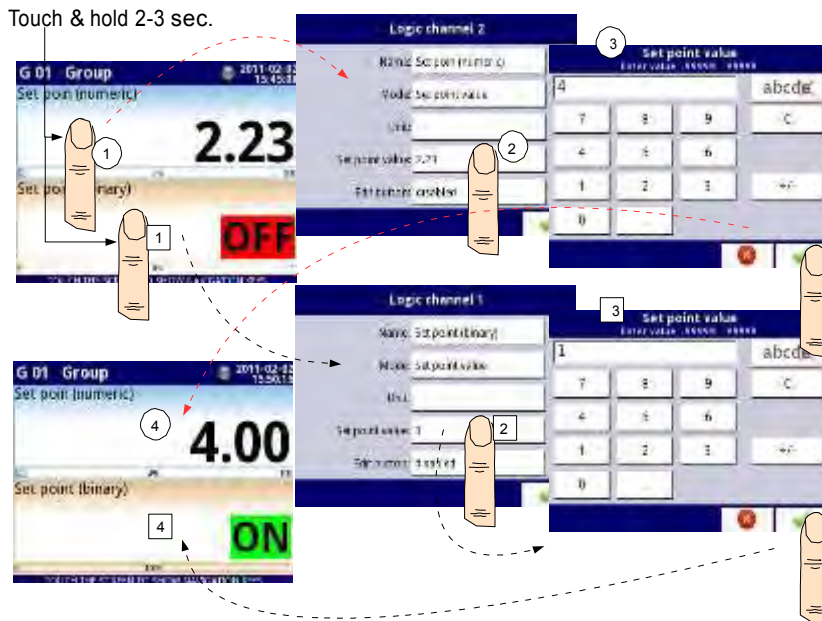

Fig. 7.50. Configuration of the value for Logical channel in Set point value for the disabled button
- disabled - the button is disabled on the display, in this case the data source of logical channel will be the value set in the Set point value parameter, (see Fig. 7.50),